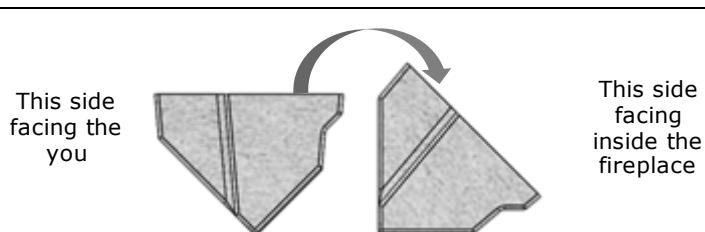

Figure 6 Side View of the top refractory brick (18)
Refer to Figure 6, Figure 7 and Figure 8 to continue with the installation procedure below:
17. Find the two front refractory bricks (19) and place one on your left and one on your right.
18. To install the next refractory bricks, make sure the door is fully raised. Hold the top refractory brick (18) in the orientation shown on the left side of Figure 6. From inside the fireplace, slide the brick along the front facing inside the firebox, up to the top. Rotate the brick 90 degree to the back as shown in Figure 6. The notch will fit to the front angle. Hold it with one hand.
19. While holding the top refractory brick (18), install the front left (19) and right (19) refractory bricks on each side. The unfinished surfaces must be hidden, facing towards the sides of the fireplace. The front and left bricks should now support the top refractory brick.